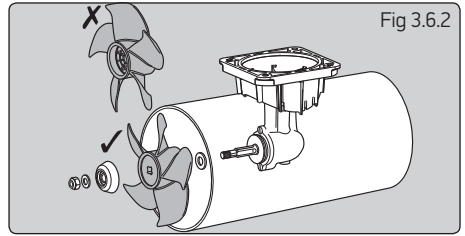

Fig 3.6.2
- ▶ Fig 3.6.2 - Tighten hub/saddle bolts to 9 Nm (6.6 lb.ft) for 140 or 21 Nm (15.5 lbs.ft) for 185.